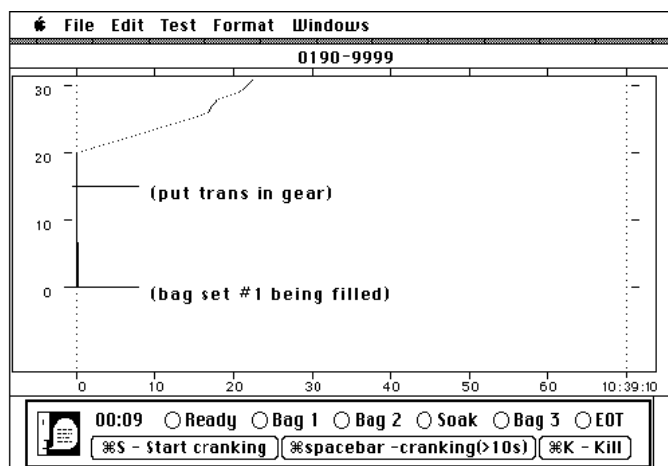

Figure 11
- 405 Simultaneously start the test vehicle's engine, according to the manufacturer's recommended starting procedures, and press <Command S>. If the engine starts and continues to run, go to Step 407. If the vehicle does not start after 10 seconds of cranking, the cranking shall cease and the reason for failure to start shall be determined. Select the "Hold cranking > 10 sec." button at the bottom of the screen by pressing <Command-Space Bar>. See Figure 11